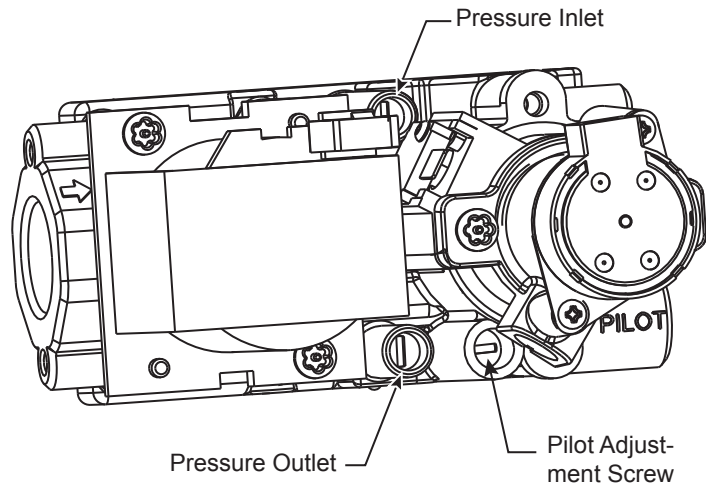

Figure 53 -
4. To check gas pressures at valve, turn captured screw counter clockwise 2 or 3 turns and then place tubing to pressure gauge over test point. Turn unit to high. *Figure 53.* After taking pressure reading, be sure and turn captured screw clockwise firmly to reseal. Do not over torque. Check test points for gas leaks.